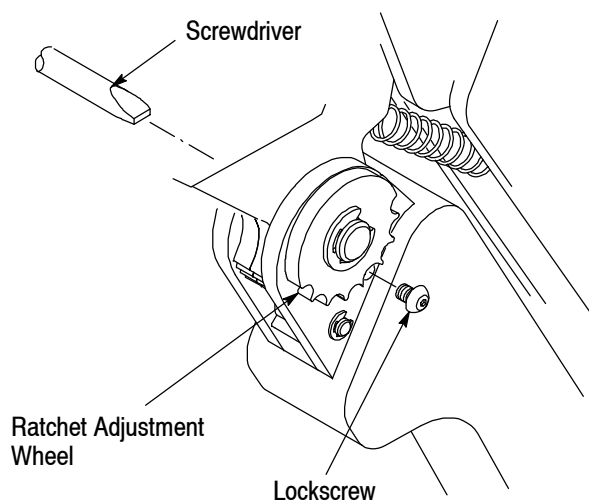

Figure 5
5.4. Ratchet Adjustment (Figure 5)